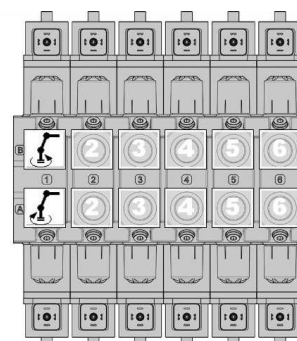

Figure 64. Function allocated on its position on the valve block.
4. Release the mouse button and the function will be allocated to its position on the valve block, see Figure 64.
The reverse function is automatically allocated to the reverse side of the section of the valve block, see Figure 64.